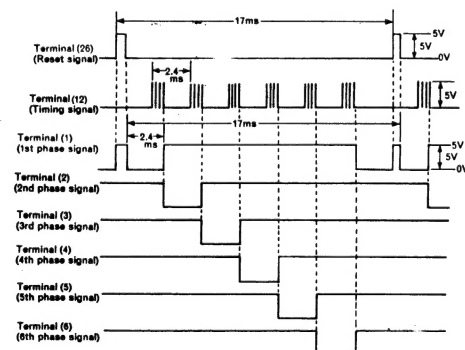

Fig. 9
The dynamic lighting system, which lights each digit at specified intervals while synchronizing with the segment signals employed in the system lighting the display tube in this unit. The 6-digit signal is generated inside IC505 to scan this. This 6-digit signal is concurrently used as the timing signal for the clock function switch and the data transfer timing signal of the frequency counter. The reference signal for the 6 digit signal is obtained from the microcomputer to synchronize the microcomputer and peripheral circuitry. As the reference signal from the microcomputer, 4 timing pulses are output from terminal (12) as shown in Fig. 9 every 2.4ms and the reset pulse from terminal (13) every 17ms. These outputs are input to terminals (8) and (26) of IC505. First, when the reset pulse is input to terminal (26), output terminals (1) – (6) of the 6-phase signal are set to H level from the rise time till just before the decay of the reset pulse. When the reset signal decays, the 1st phase (output terminal (1)) of the 6-phase signal is set to L level for 2.4ms, until the 4th timing pulse input from terminal (8) is input. Simultaneously, when the 1st phase rises to H level from L level, the 2nd phase output is set to L level for 2.4ms, until the 4th timing pulse is output from terminal (8). The same principle is applied to the 3rd, 4th, 5th and 6th phase. Then, when the reset pulse is input to terminal (26) again, the same operation is repeated, each phase is set to L level for 2.4ms every 17ms and scanned in sequence from the 1st phase.